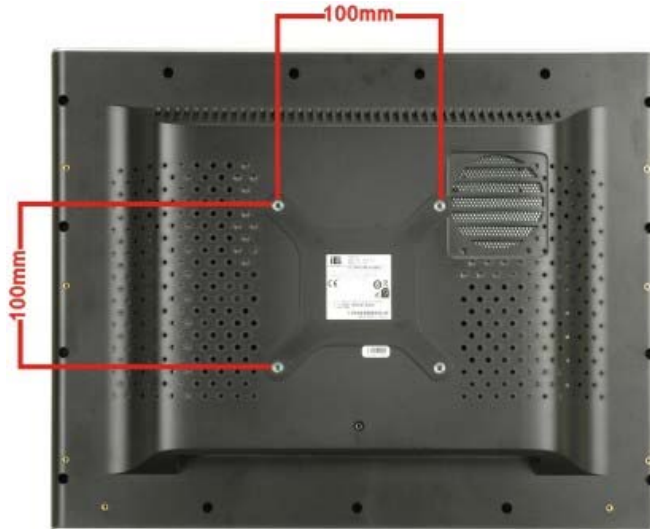

Figure 4-17: Arm Mounting Retention Screw Holes
- Step 3:** Align the retention screw holes on the mounting arm interface with those in the flat panel PC. The AFL-15A-N270 arm mount retention screw holes are shown in **Figure 4-17**.